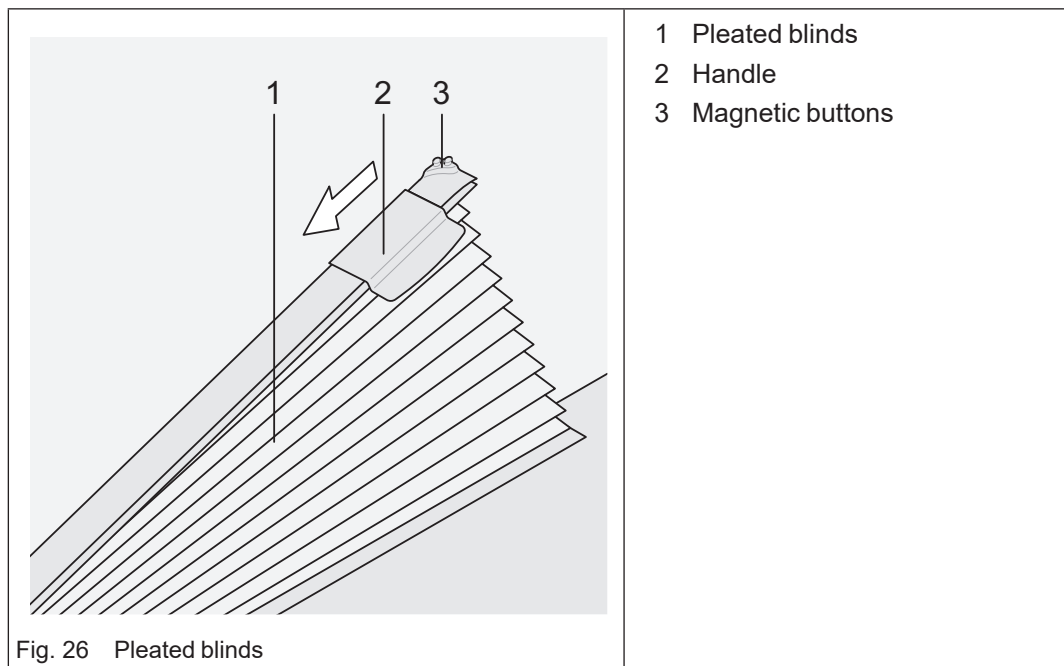

Fig. 26 Pleated blinds
The pleated blind (Fig. 26/1) is integrated in the right and left door frames in the driver's cab.
- ➔ Push the handle (Fig. 26/2) into the direction of the arrow. The pleated blind is unlocked.
- ➔ Unfold the pleated blind (Fig. 26/1) and use the magnetic buttons (Fig. 26/3) to attach it to the window frame.